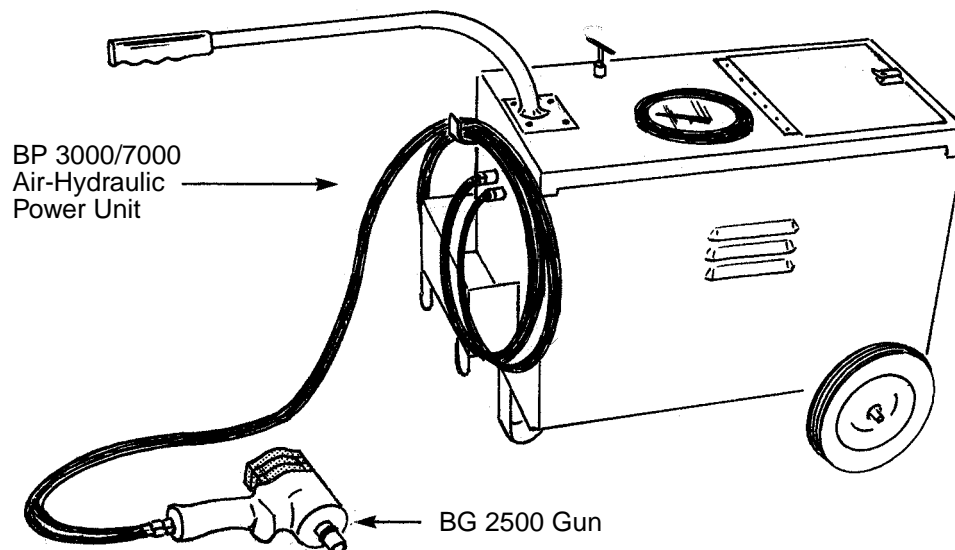

Figure 2 - Blind Nut Power Tool
- 4.2.1 Blind nut power tool kit (e.g., a Hi-Shear BG2500 gun with a BP3000 or BP7000 air-hydraulic power unit and tooling accessories as listed in Table 4). The BP7000 power unit replaces the BP3000 unit, which is no longer available. Refer to Figure 2 for a general description of the power tool kit. It is acceptable to use alternative installation equipment provided that the final installation meets all the requirements specified in section 6.